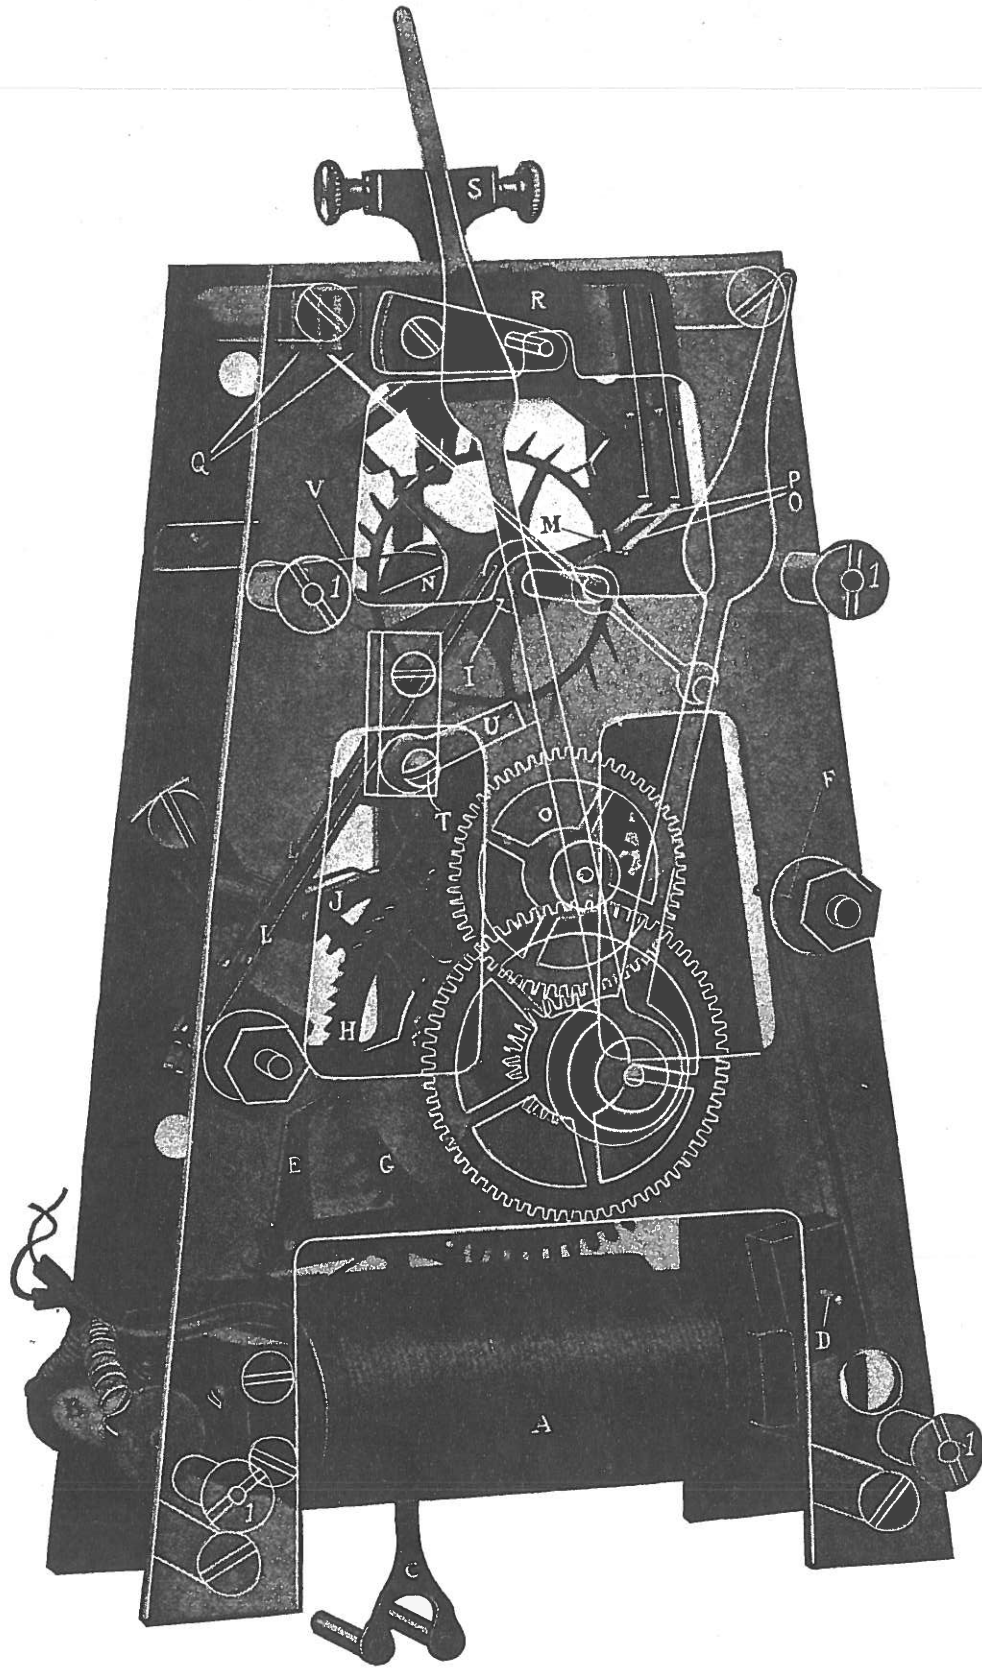

Fig. 574
**The Self-Winding Mechanism** (Fig. 574. Page 7). Besides the lettered parts shown in this illustration, there is a helical spring mounted on a sleeve concentric with the main wheel arbor bearing the hands.